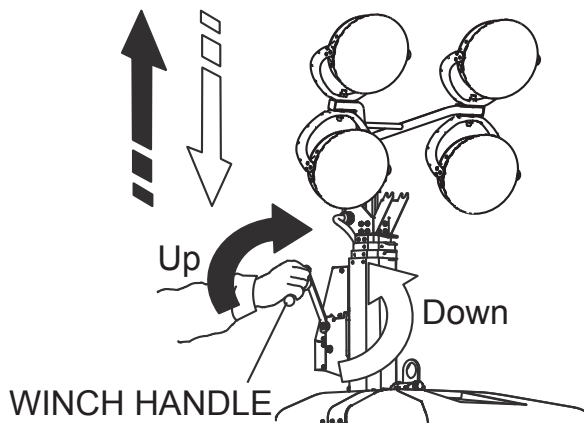

Figure 14. Extending the Mast
- Turn the mast winch clockwise to raise the mast and observe that the mast begins to extend upwards (Figure 14).